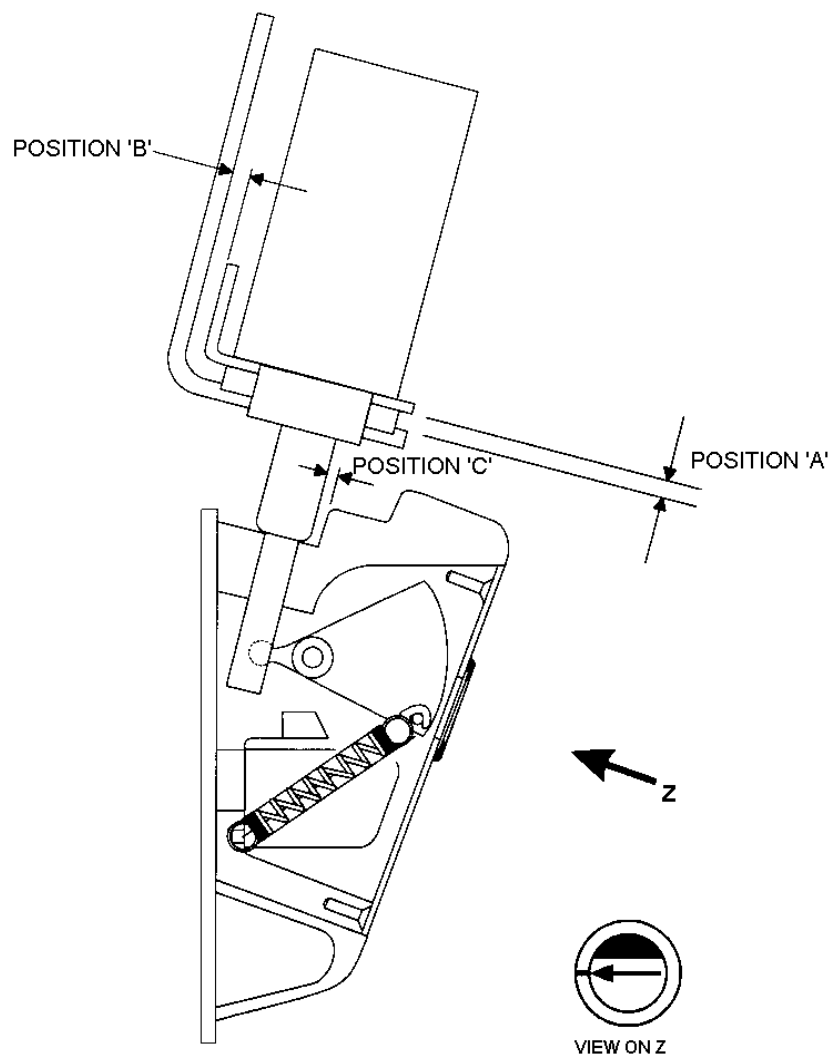

Figure 1: Door Bolt Adjustment
3. Check that the dimension at position 'C' (see Figure 1), is between 1.5mm to 2.0mm. If adjustment is necessary add or remove the packing at position 'B' as follows: